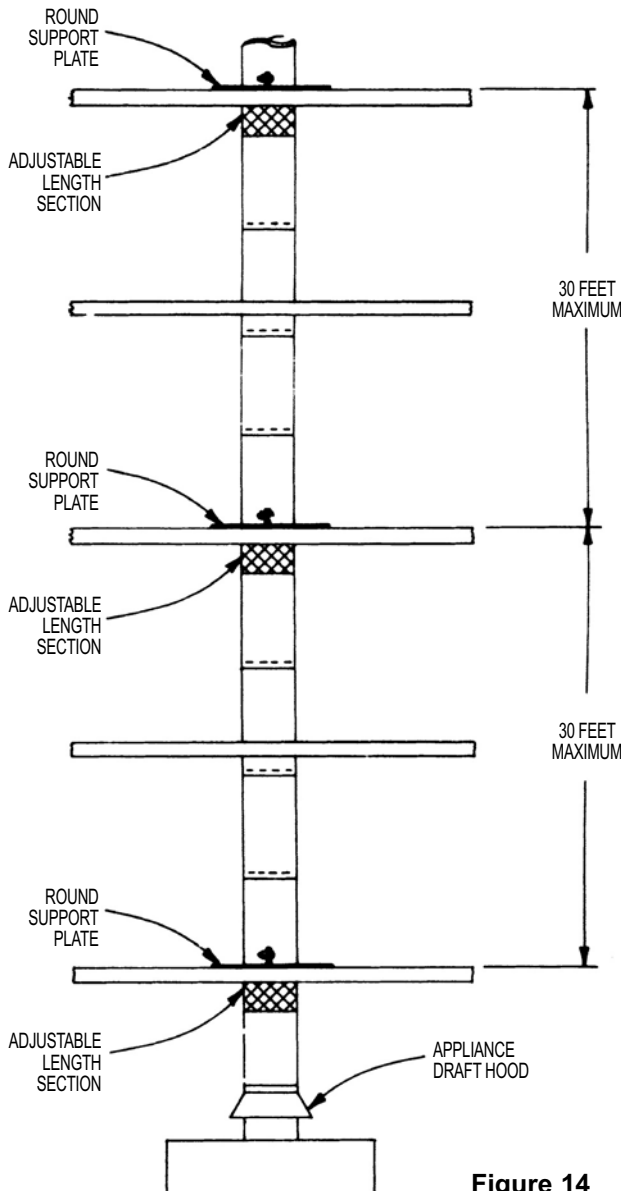

Figure 14
- Mounting holes are provided around the perimeter of the Round Support Plate. Use appropriate fasteners to secure the Support Plate halves to the opening between floors. (Round Support Plates should be attached to the TOP of the opening only. See **Figure 14**.)
- For installations with multiple supports, an Adjustable Length Section of Type B Gas Vent should be installed between each pair of locations where a support is used. See **Figure 14**. This allows the